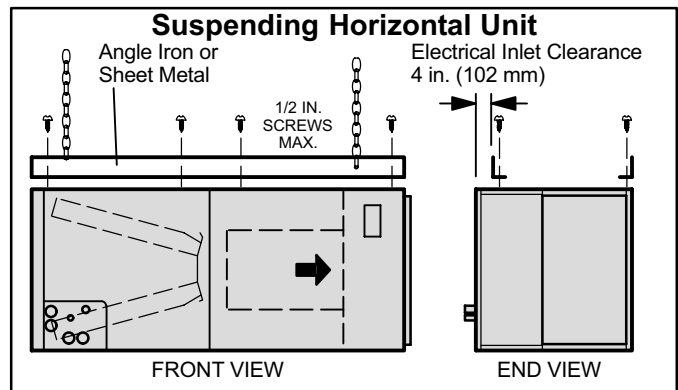

Figure 3
3. If the unit is to be suspended, it must be supported along the entire length of the cabinet (see figure 3). If using a chain or strap, attach a piece of angle iron or sheet metal to the unit (either above or below the unit), so that the full length of the cabinet is supported. Use securing screws which are no longer than 1/2 inch to avoid damaging the coil or filter. Use sheet metal screws to connect the return and supply air plenums.
12. If the unit is to be suspended, it must be supported along the entire length of the cabinet (see figure 3). If using a chain or strap, attach a piece of angle iron or sheet metal to the unit (either above or below the unit), so that the full length of the cabinet is supported. Use securing screws which are no longer than 1/2 inch to avoid damaging the coil or filter. Use sheet metal screws to connect the return and supply air plenums.